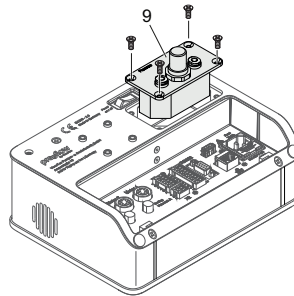

Fig. 176
- ▶ Connect the cable beneath the cover plate to the pneumatic unit (8) (Fig. 176).